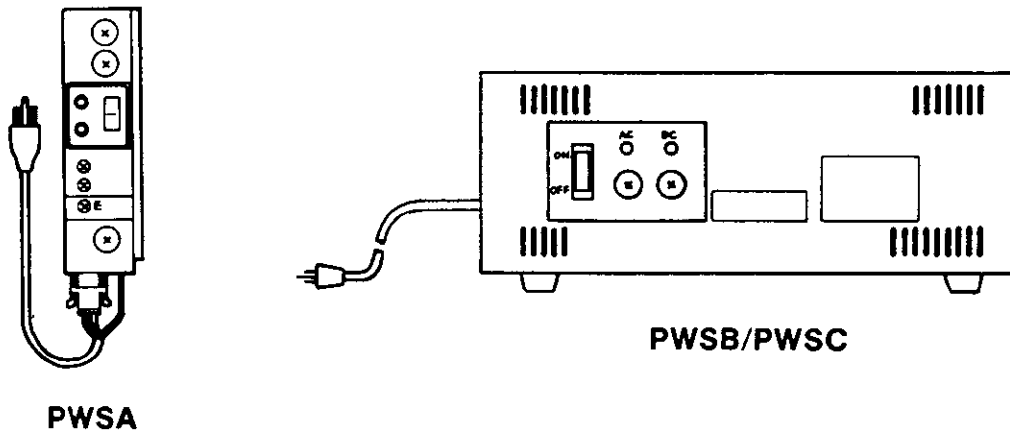

FIGURE 4-16 POWER SUPPLY UNITS
- The main power supply unit generates the necessary DC voltages required for system operation. In all three (3) system, the DC supply voltages are +5 Vdc, +8 Vdc and +24 Vdc. These voltages are converted from the 120v AC commercial power supply, or +24 Vdc, emergency back-up battery, at the main power supply unit.
- c. Figure 4-16 shows the main power supply units for each KSU.